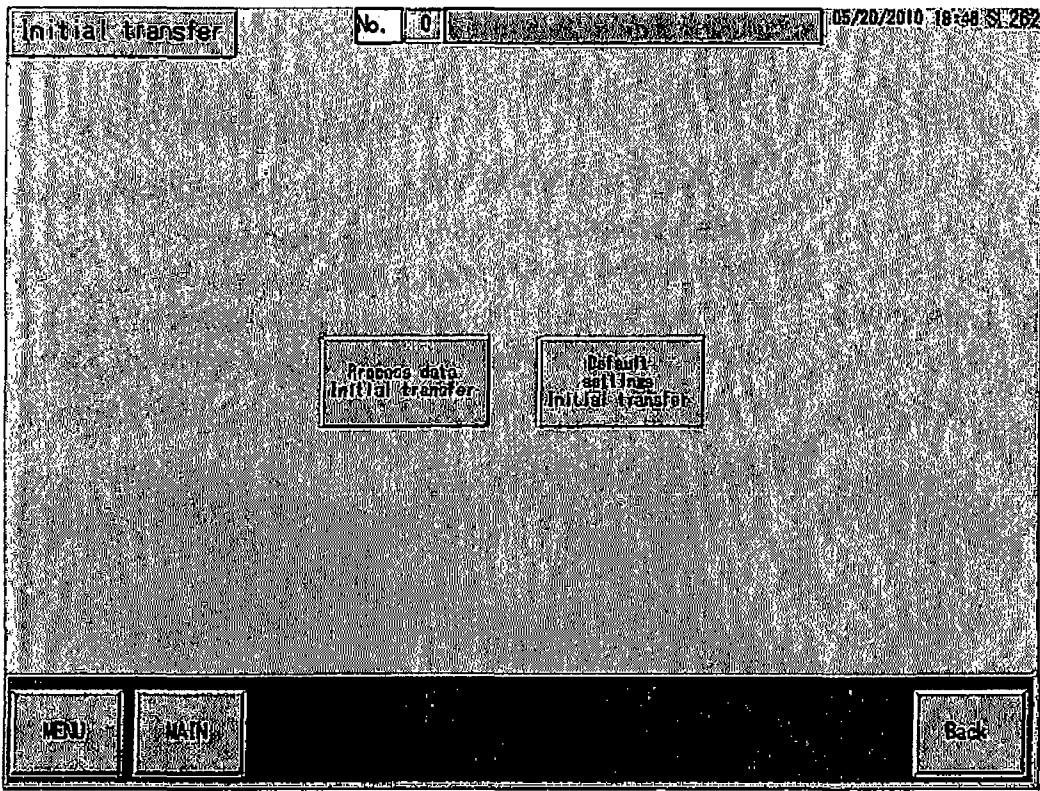

Fig. 14-4-12-14. Initial Transfer Display
- Process Data Initial Transfer...The process data initialtransferwindow (Fig.14-4-12-15) pops up.